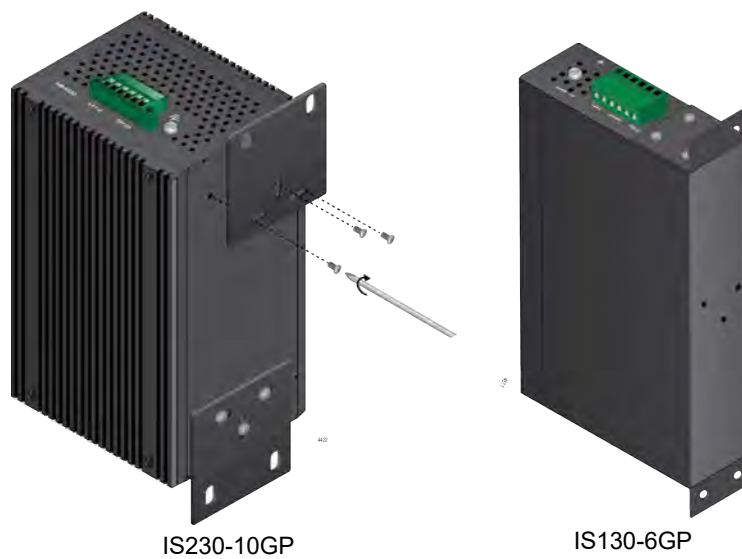

Figure 25. Install Wall Mount Brackets on the Back of the Switch
3. On the IS130-6GP top and bottom panels and the IS230-10GP back panel, align and install the two wall mounting brackets (provided) with the bracket mounting screws (provided). Refer to Figure 25.